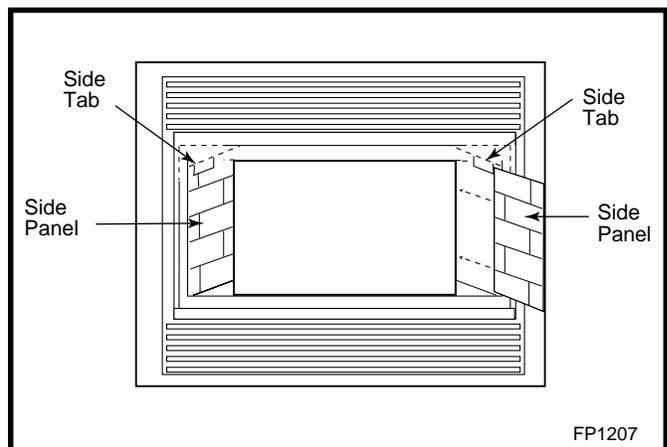

Fig. 7 Ceramic refractory installation
3. Slide refractory side panels on the firebox bottom and behind side bracket and adjust, fitting the ceramic tight to the side of firebox (Fig. 7). Tighten screws.